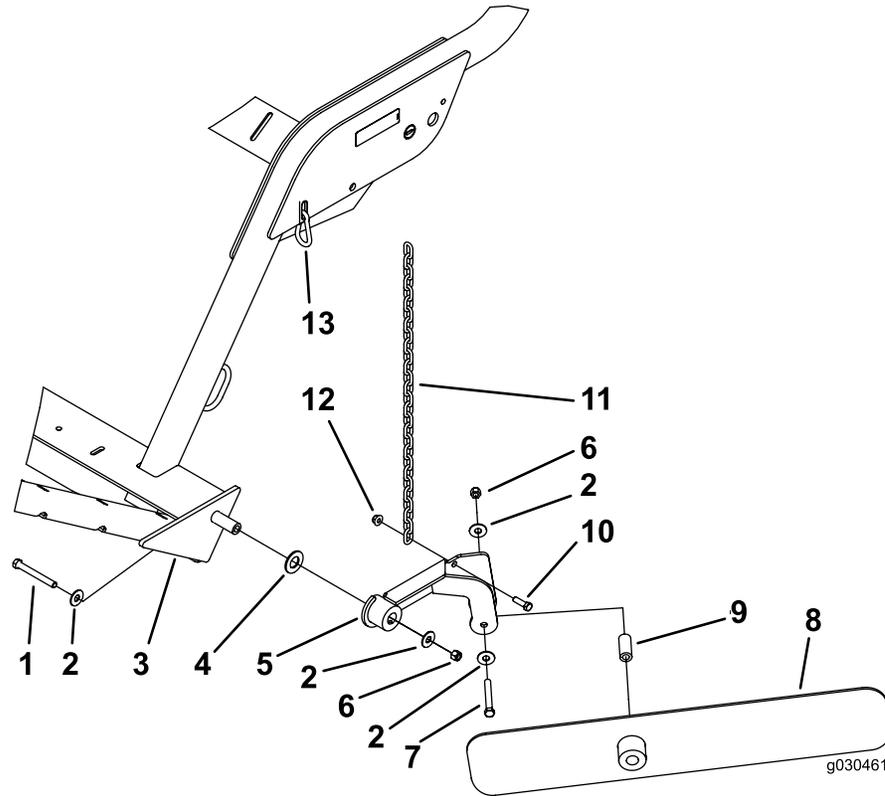

Figure 16
**Note:** Position components as shown in Figure 16.
2. Secure the windrow blade to the mounting assembly with a bolt (7/16 x 3-1/4 inches), 2 flat washers, a spacer, and a locknut (7/16 inch). Assemble the components as shown in Figure 16.
- Secure the chain to the blade mounting assembly with a bolt (3/8 x 1-1/4 inches) and a flange nut (3/8 inch) (Figure 16).
- Secure the other end of the chain to the slot in the frame with the snap link (Figure 16).